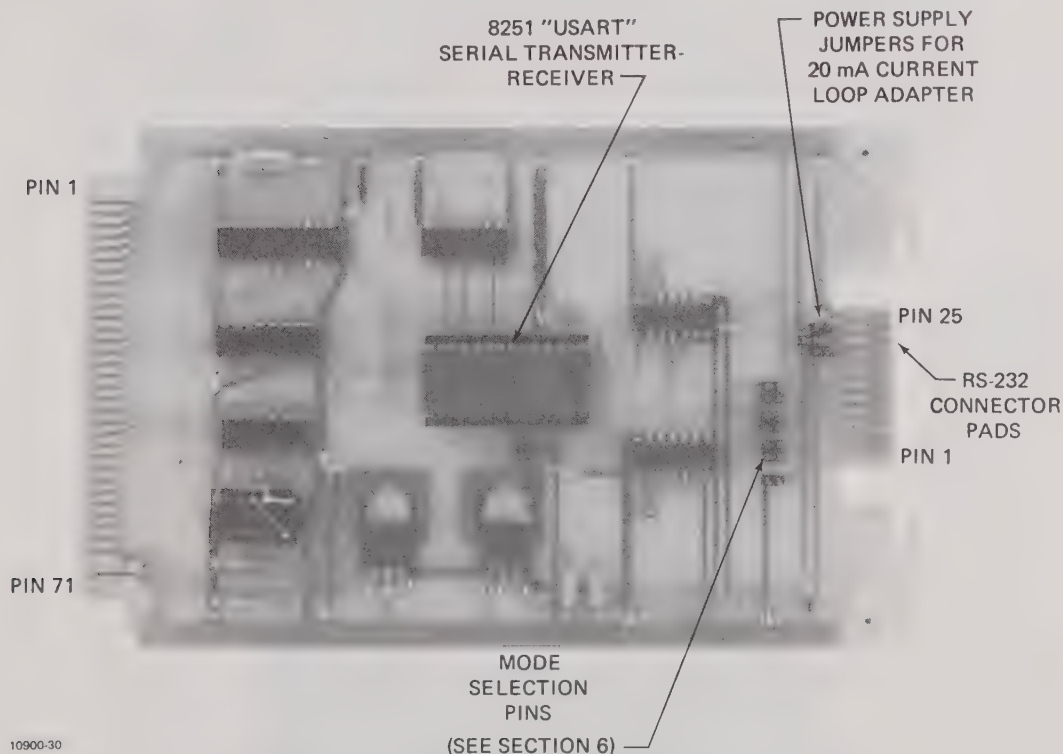

Figure 2.10 - RS-232 Board
2.2.7 RS-232 Board (See Figure 2.10) The RS-232 board contains the logic necessary to provide an asynchronous serial interface patterned after EIA Standard RS-232C.